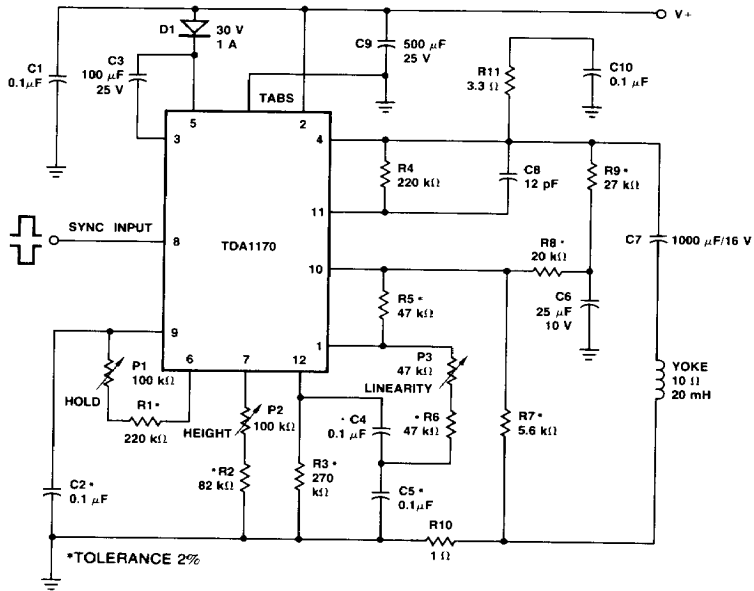

Fig. 2a
**AC CHARACTERISTICS** (Test Circuits – Figures 2a, 2b)
As can be seen, the supply current is independent of  $V_+$  and depends only on the yoke characteristics. The minimum value of  $V_+$  necessary for the required output current results in the maximum efficiency. The quiescent output voltage (pin 4) is fixed by the voltage feedback net network R7, R8, and R9 (Fig. 2a) according to: